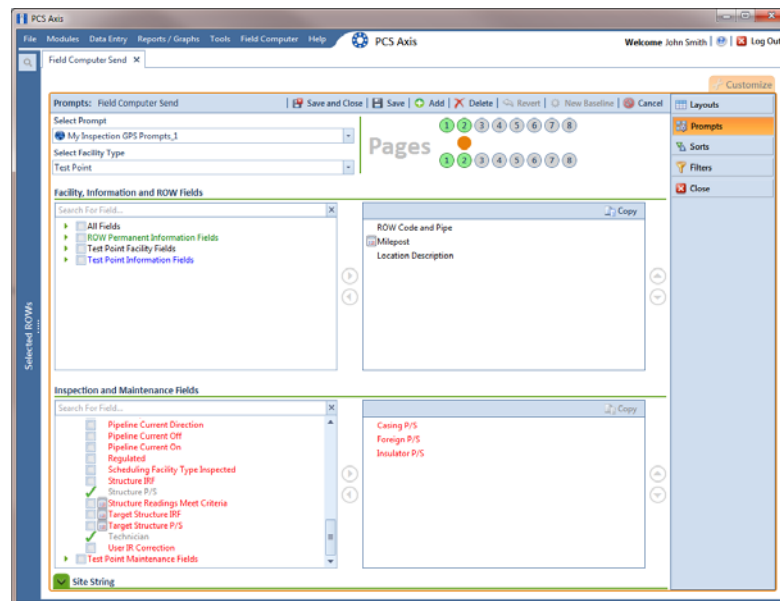

Figure 7-34. Prompts
- 16 If you have multiple pages of prompts, clicking a page number icon displays prompts for the selected page. For example, clicking  displays prompts set up in page 2 as shown in the following example (Figure 7-34).